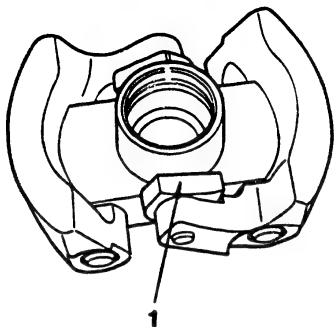

Fig. 46 Check slider for wear
2. When the contact surface of the slider is worn excessively or the clearance between slider and pin is excessive, replace flyweight assembly. (Fig. 46)